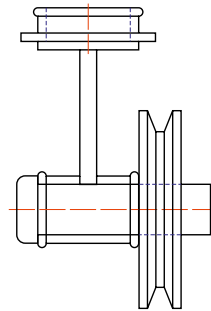

Fig. 10.19 Example – Xrefs
## Example – External References (Fig. 10.19)
8. Now reopen the original drawing. The **external reference** within the drawing has changed in accordance with the alterations to the spindle drawing. Fig. 10.19 shows the changes in the front view of the original drawing.